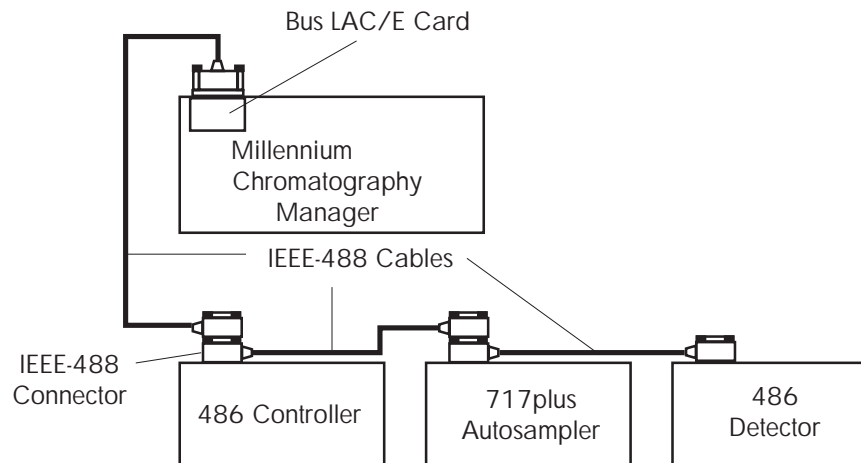
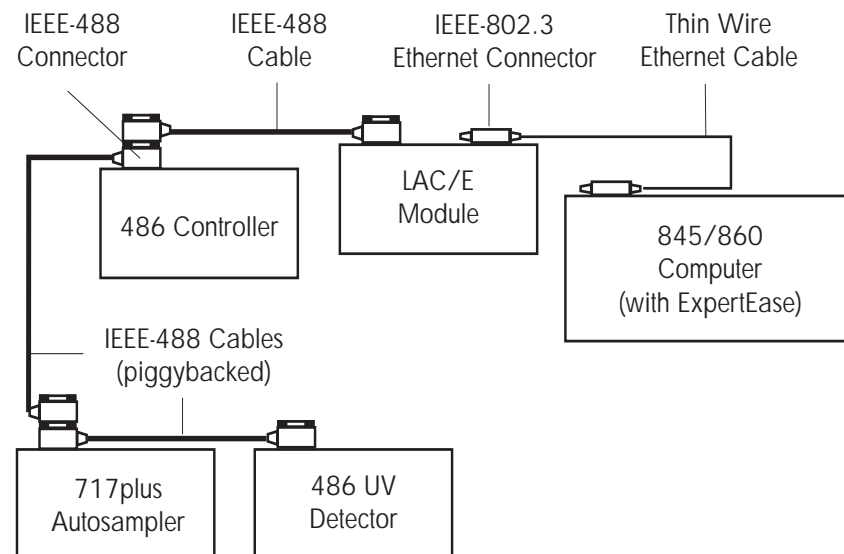

Figure 3-3 IEEE-488 Connections in a Millennium System
Figure 3-4 IEEE-488 Connections in Waters 845/860 System
- **Millennium Chromatography Manager** - Attach the cable to the Bus LAC/E™ (Laboratory Acquisition and Control/Environment) card (Figure 3-3)
- **Waters 845/860 Workstation** - Attach the cable to the LAC/E module (Figure 3-4)
2. If you are using the Waters 486 detector as part of a multicomponent configuration (as illustrated in Figure 3-3 and Figure 3-4), connect a second IEEE-488 cable to the “stackable” connector on the detector. Connect the other end of the cable to the IEEE-488 port on the next component.
If using a multicomponent configuration (as illustrated in Figure 3-3 and Figure 3-4), connect a second IEEE-488 cable to the “stackable” connector on the PowerLine instrument. Connect the other end of the cable to the IEEE-488 port on the next PowerLine component.